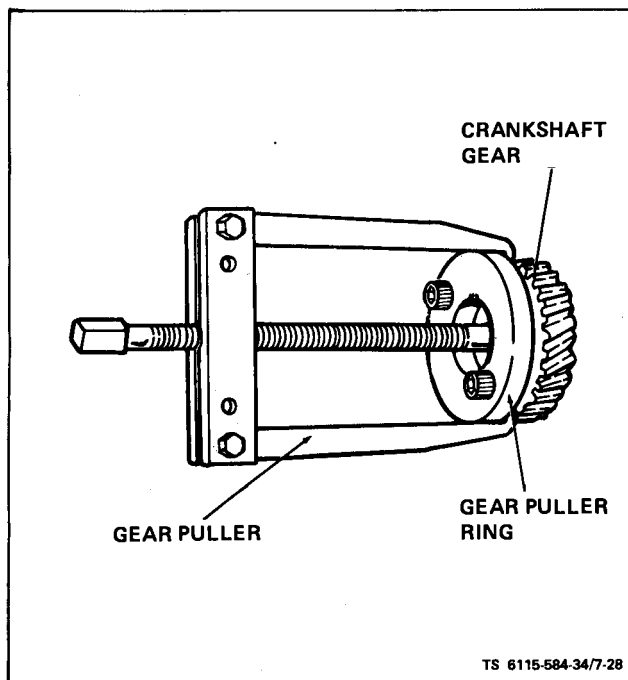

Figure 7-28. Crankshaft Gear Removal
(8) Refer to paragraph 7-10 and remove oil base.
(9) Refer to paragraph 7-11 and remove oil pump cup assembly.
(10) Remove lock ring (14) and retaining washer (15) in front of crankshaft gear (16).
(11) Pull off crankshaft gear. It has 2-1/4-20 UNC tapped holes for attaching a gear pulling ring (see figure 7-28). Use care not to damage teeth if gear is to be re-used. Remove woodruff keys (25, figure 7-15).
(12) Refer to paragraph 7-10 and remove connecting rod and piston assemblies.